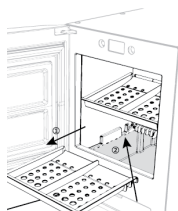

Fig. 6, remove lower shelf and fill reservoir with clean water to the fill line.
5. Fill the ice maker reservoir with clean water up to the maximum fill line, and add an entire bottle of Forge Cleaning Solution into the reservoir, to mix with the clean water. See Fig. 6 on next page.